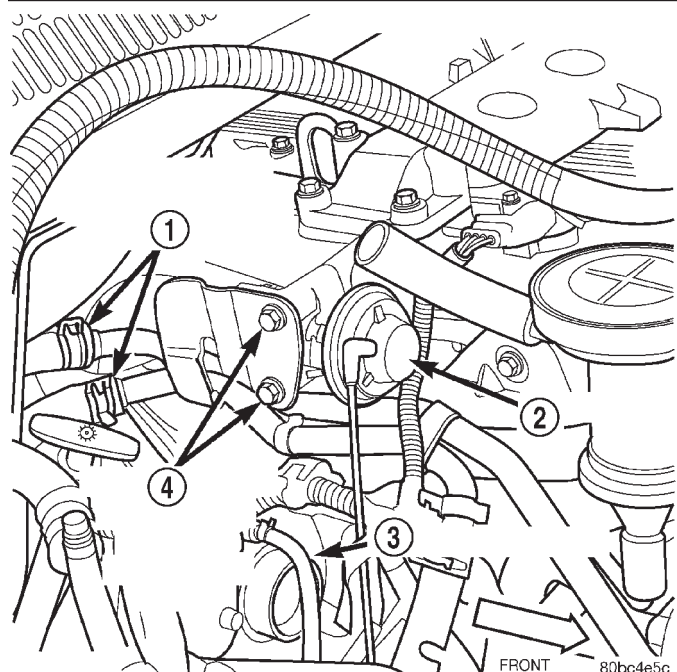

Fig. 55 Heater Hoses
- (11) Disconnect the heater hoses (Fig. 55).